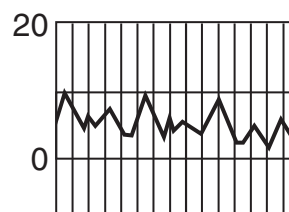

Figure 26
- Observe for central venous pressure waveform obtained by a calibrated pressure transducer attached directly to the introducer needle/catheter (refer to Figure 26).